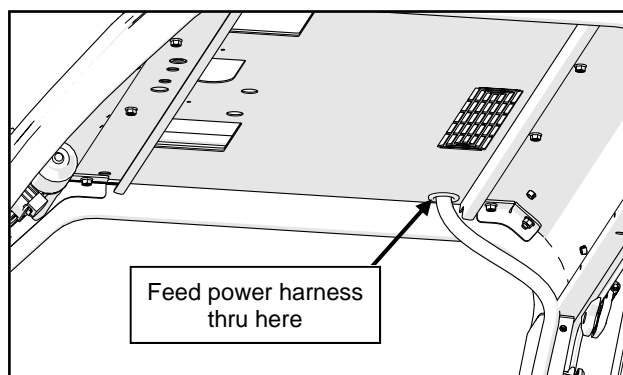

Fig. 2.5 (Harness Routing through Roof Pan)
- 2.5** Locate two large grommets, one each on the Roof Kit and Alternator kit. Install the power harness and one grommet through the large hole toward the rear of the roof pan. Feed enough of the harness through to reach the front of the roof pan. Figure 2.5. If installing an electric heater kit, refer to the installation manual with that kit and run the required control wires at this time following the same routing as the power harness.